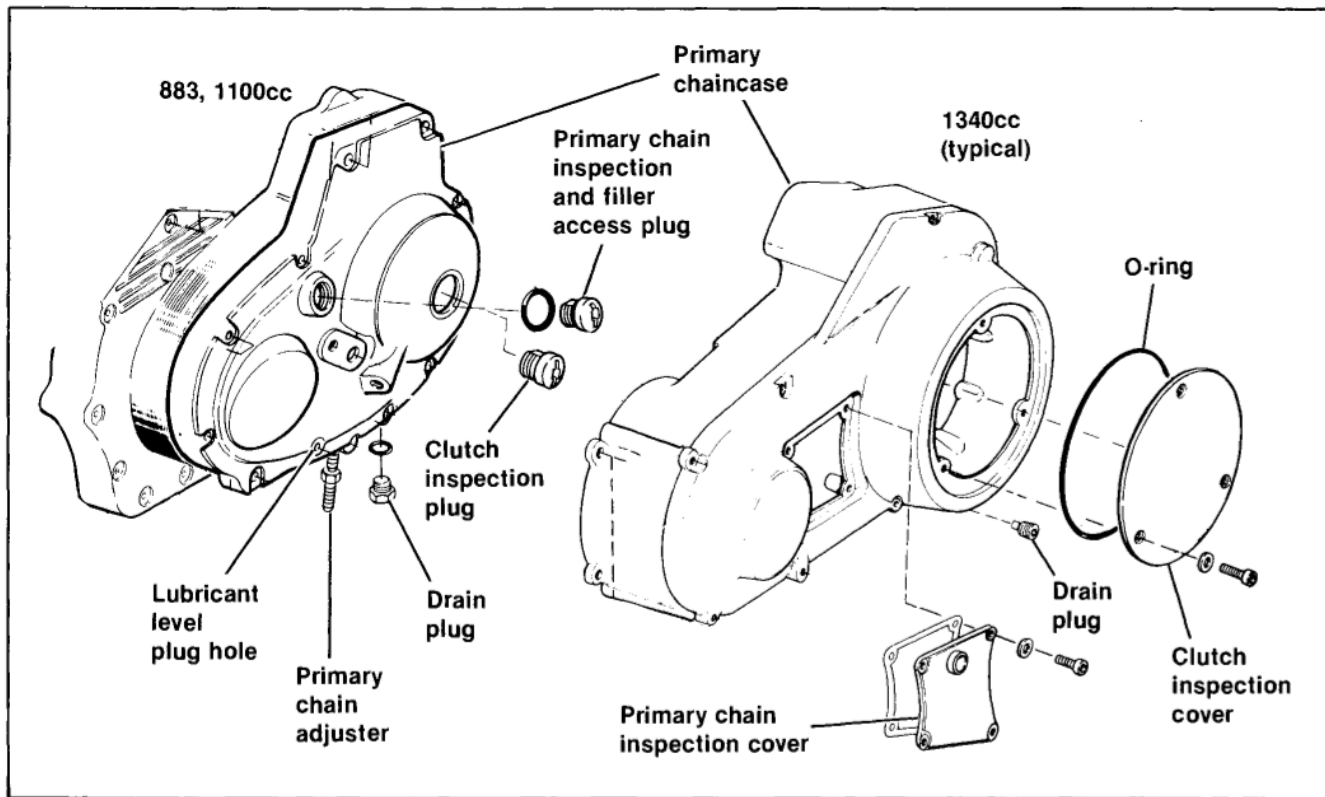

Figure 28. Primary Chaincase
2. See Figure 28. Remove screws and nylon washers that secure clutch inspection cover.
See Figure 28. The drain plug is located on the underside of the chaincase. The filler access is located near the top of the chaincase cover. The lubricant level plug is located near the bottom of the chaincase cover. To determine correct lubricant level in the transmission and chaincase compartments, proceed as follows: